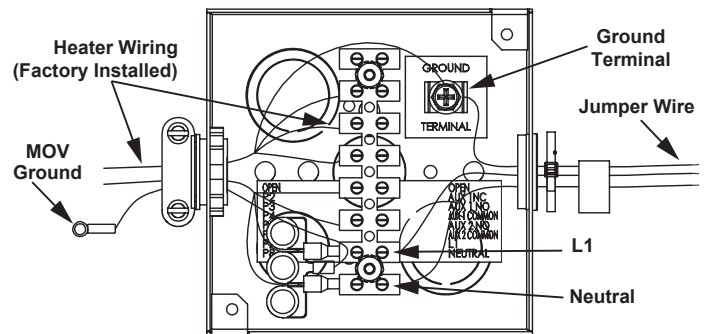

Figure 30. Junction Box
The 120 VAC hot wire from the power supply must connect to the black jumper wire or the “L1” terminal block location in the junction box and the 120 VAC neutral wire must connect to the white jumper wire or the “Neutral” terminal block location in the junction box for correct polarity. See *Figure 30* (page 33).
- Connect the 120 VAC hot wire from the power supply to the black jumper wire or the terminal block location marked “L1” inside of the junction box located on top of the water heater. If the black jumper wire is used, make the connection inside of the junction box with a properly sized wire nut and wrap electrical tape around the wire nut and wire end. See *Figure 30* (page 33) and the wiring diagram *Figure 41* (page 64).
- Connect the 120 VAC neutral wire from the power supply to the white jumper wire or the terminal block location marked “Neutral” inside of the junction box located on top of the water heater. If the white jumper wire is used, make the connection inside of the tape around the wire nut and wire end. See *Figure 30* (page 33) and the wiring diagram *Figure 41* (page 64).
Connect the ground wire from the power supply to the green jumper wire or the ground terminal location inside of the junction box located on top of the water heater. If the green jumper wire is used, make the connection inside of the junction box with a properly sized wire nut and wrap electrical tape around the wire nut and wire end. See the junction box *Figure 30* and wiring diagram *Figure 32* (page 38).